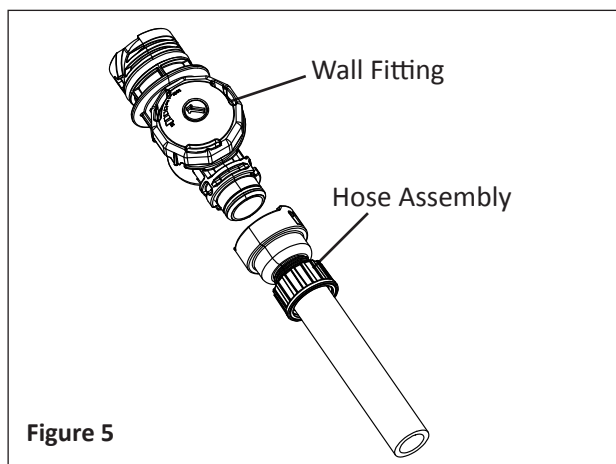

Figure 5
4. Attach the hose assembly to the wall fitting. See **Figure 5**. Then attach the wall fitting (with hose) to the wall adaptor. See **Figure 5**. Take the opposite end of the hose assembly and walk to the farthest point of the pool from the wall adaptor. **To prevent overstretching the hose, rest the hose on top of the pool water.** Measure the excess hose length (hose that extends beyond pool edge). This determines the amount of hose to be cut from sections 2 and 3.